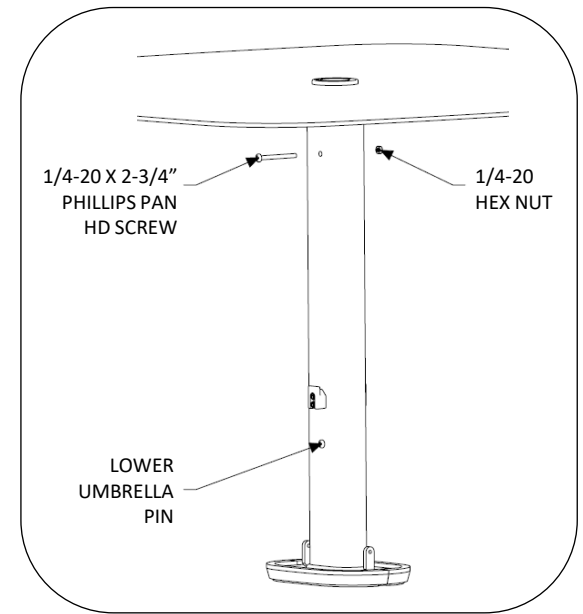

FIG. 5 – INSTALL UMBRELLA HARDWARE
13. For single post tables with umbrella hole, install umbrella pins and umbrella as shown in Fig. 5.